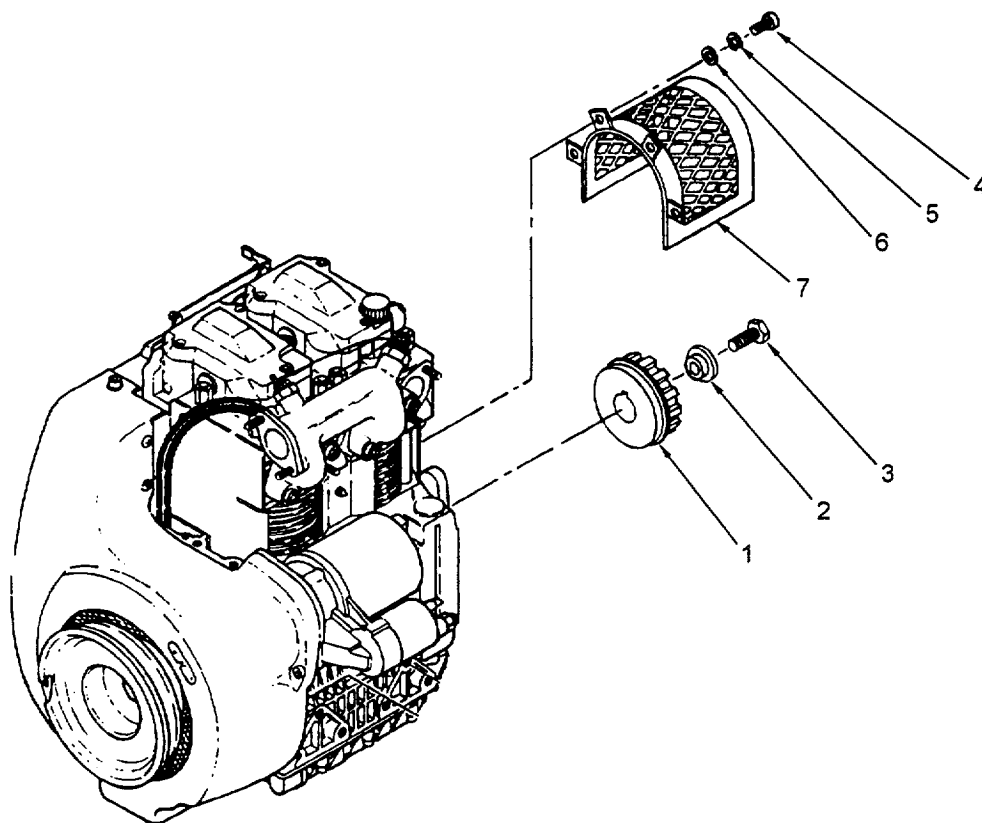

Figure 6-51. Engine Flexible Coupling Adapter and Guard Installation
6.4.28 Install Flexible Coupling Adapter and Guard to Engine. (Refer to figure 6-51.)